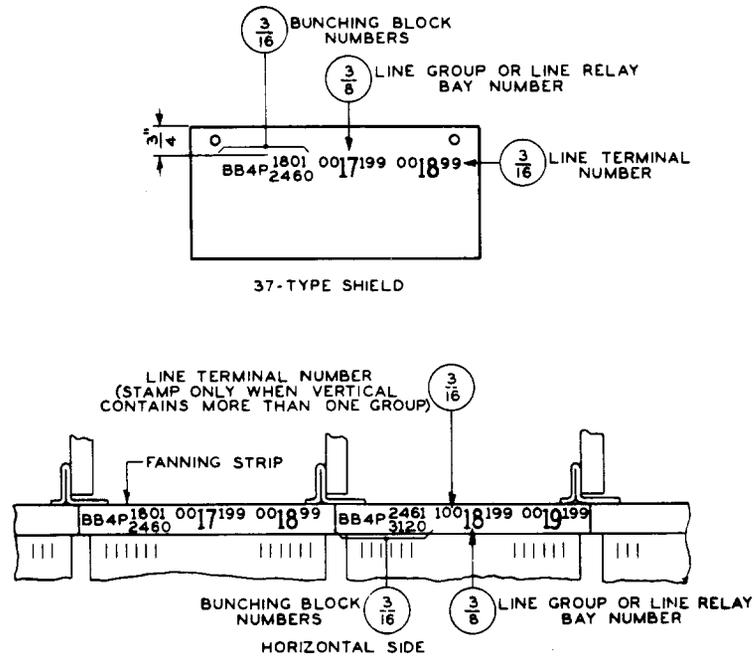

Fig. 29 – Designations Applying to Equipment on Opposite Vertical — Panel and Step-by-Step IDF
occurs on more than one vertical, also stamp the first and last circuit numbers of each group. For each vertical having party line bunching blocks, stamp BB 4P or BB 10P also, as required, with the first and last circuit numbers thereof on the respective verticals. (See Fig. 29.)
(b) **Step by Step:** Stamp the designation of the line group (G1, G2, etc) on the terminal strip located immediately to the right of each vertical on which the line group appears. For each vertical having party line bunching blocks, stamp BB 4P, BB 8P, or BB 10P also, as required, with the first and last circuit numbers thereof. (See Fig. 29.)
2.41 *Shields:* When 37- or similar-type shields are used on horizontally mounted terminal strips, designations required on the edge of the fanning strip shall be duplicated on the shield. (See Fig. 29.)